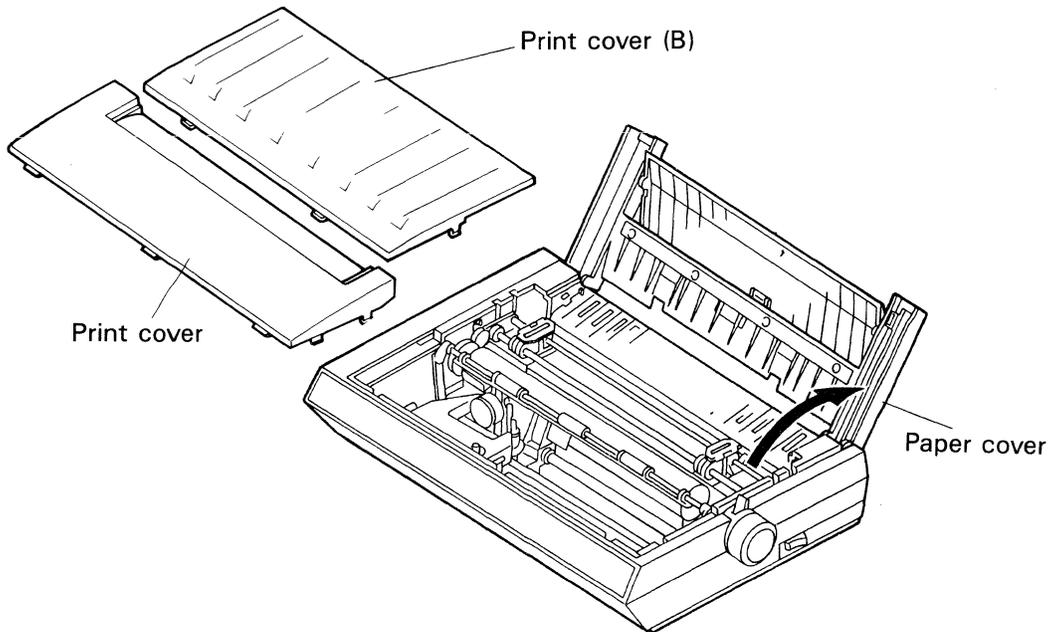

Fig. 2-7
2.6.1.1 Remove the print cover and the print cover (B), and open the paper cover rearward by rotating it. (Fig. 2-7)